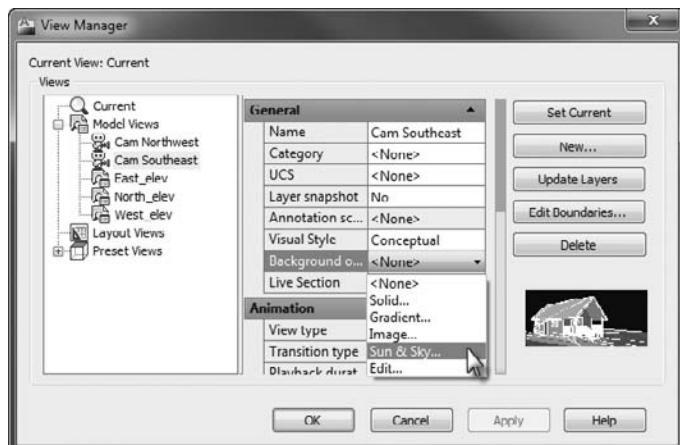

FIGURE 17.22 The Cam Southeast camera selected in the View Manager dialog box
3. Expand the drop-down list for the Background Override entry in the General rollout, and then choose Sun & Sky, as shown in Figure 17.22.